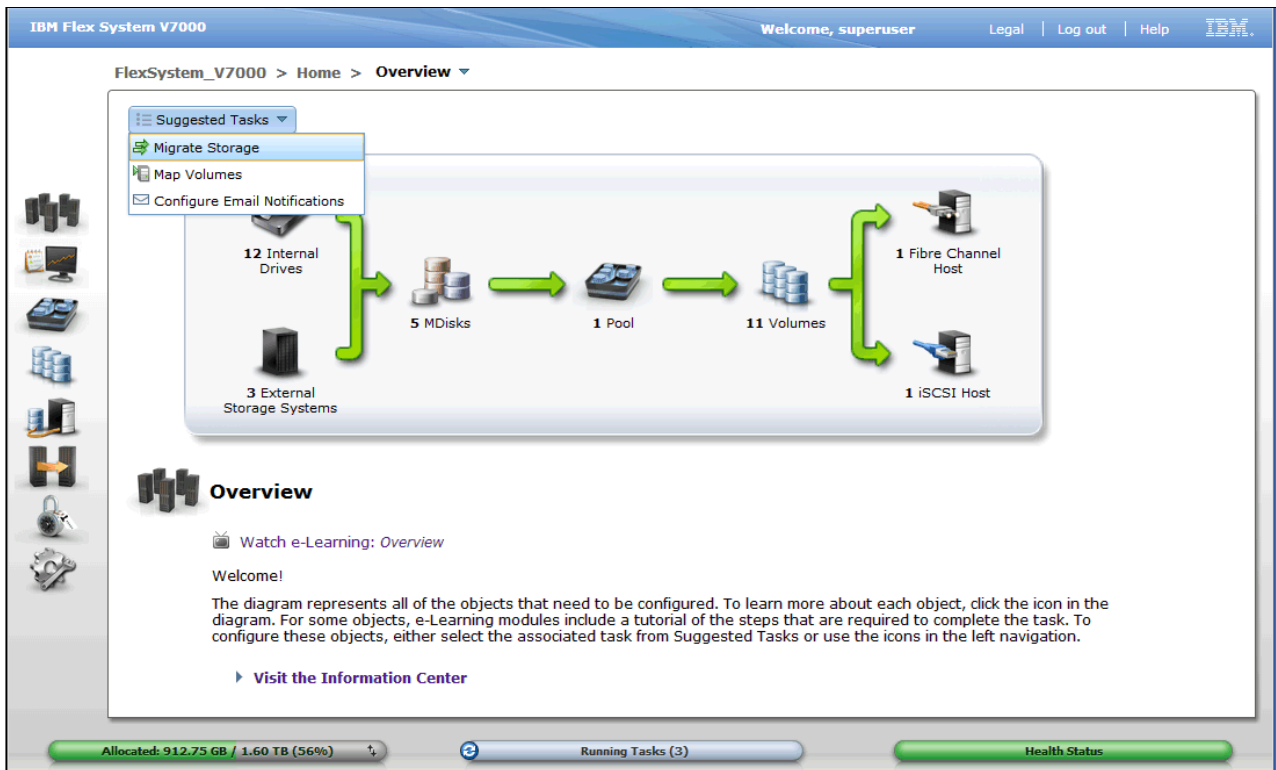

Figure 7-7 Migrate Storage from Overview Migrate Storage option
- ▶ Method 1: Click **Home** → **Overview**, and then click **Migrate Storage** from the **Suggested Tasks** drop-down menu as shown in (Figure 7-7 on page 289).